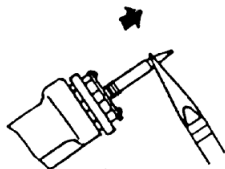

FIG. 4
4. Use a pair of pliers to remove the tip (fig. 4 & 5).